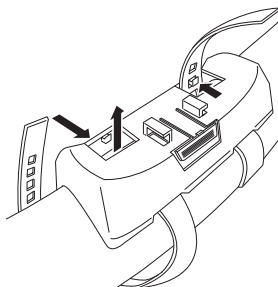

Fig. 16
2. Fix the holder to the inside edge of the steering wheel so that the holder is facing the driver. (Fig. 16)